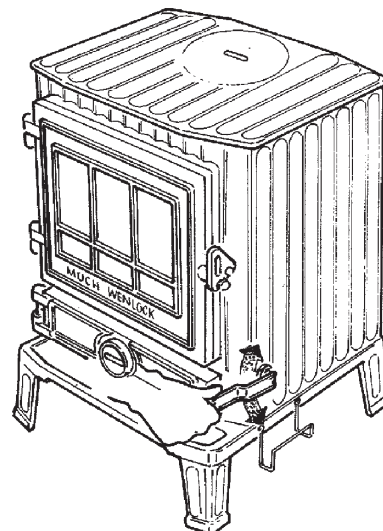

Fig. 3
- Riddle the bottomgrate by engaging the operating tool in the right hand side square socket shaft, Fig. 3, and rotate/reverse it sharply for about 10 strokes by which time the fire should be free of ash. Riddle the grate at least twice daily (more than if required) and always before re-fuelling.